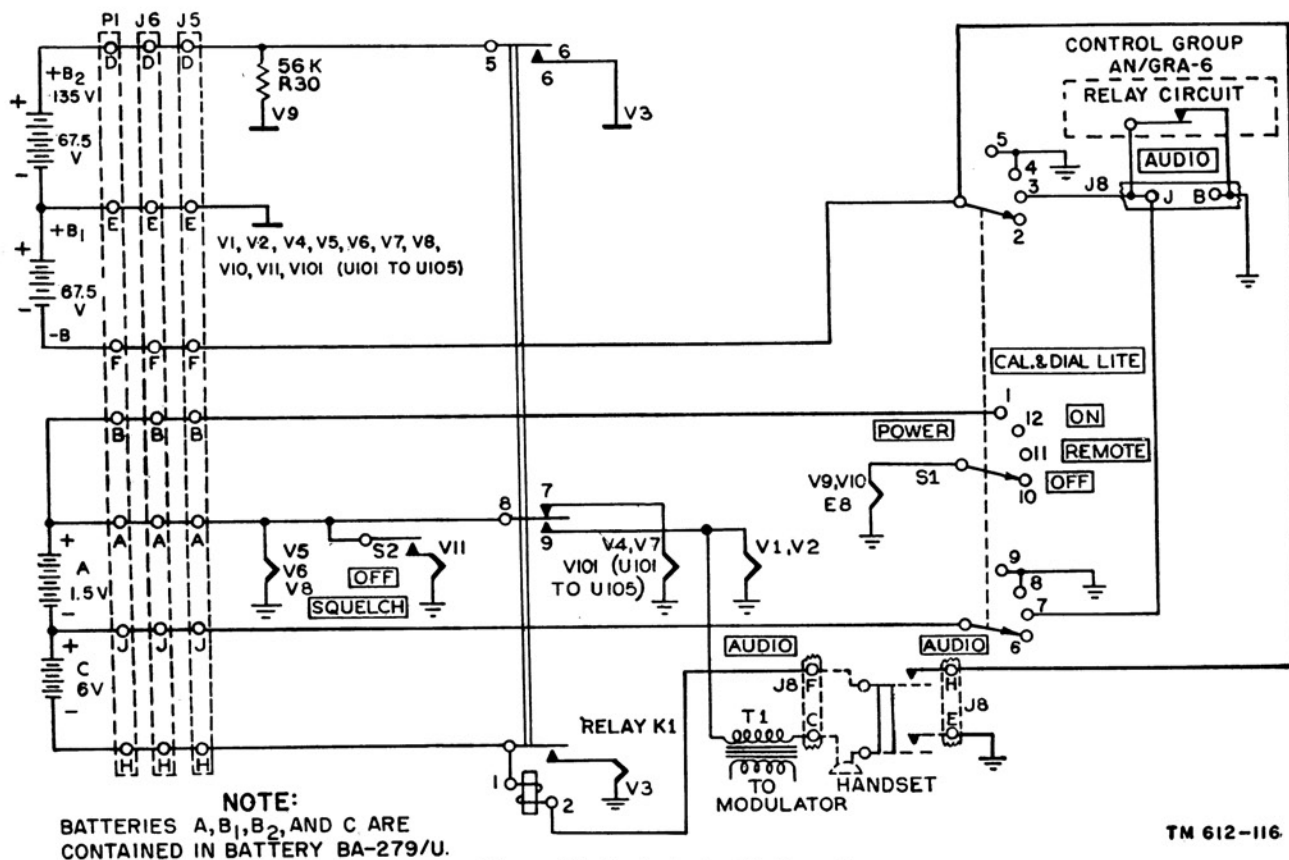

Figure 22. Control circuit diagram.
*a. GENERAL.* System sectionalization consists of determining whether the trouble is in the transmitter, receiver, antenna, or power source. The control circuit diagram (fig. 22) will assist in sectionalizing the trouble. This diagram is described in detail in paragraph 39.
- (1) Operate the radio set over its entire tuning range and observe its performance. See the equipment performance checklist (par. 37) for normal test indications, using a similar radio set which is known to be good.
- (2) If the entire radio set is dead, the trouble is probably in the power source or in the leads to the set. Replace the faulty battery or check the leads, as necessary. If Amplifier Power Supply AM-598/U is being used, check it as indicated in paragraph 43. Check the handset and replace it if necessary.
- (3) If only the transmitter or receiver is dead, the trouble is in that component and is probably a tube or a relay. If the simple remedies indicated in *b* and *c* below do not correct the trouble, higher echelon maintenance will be required.
(fig. 22)